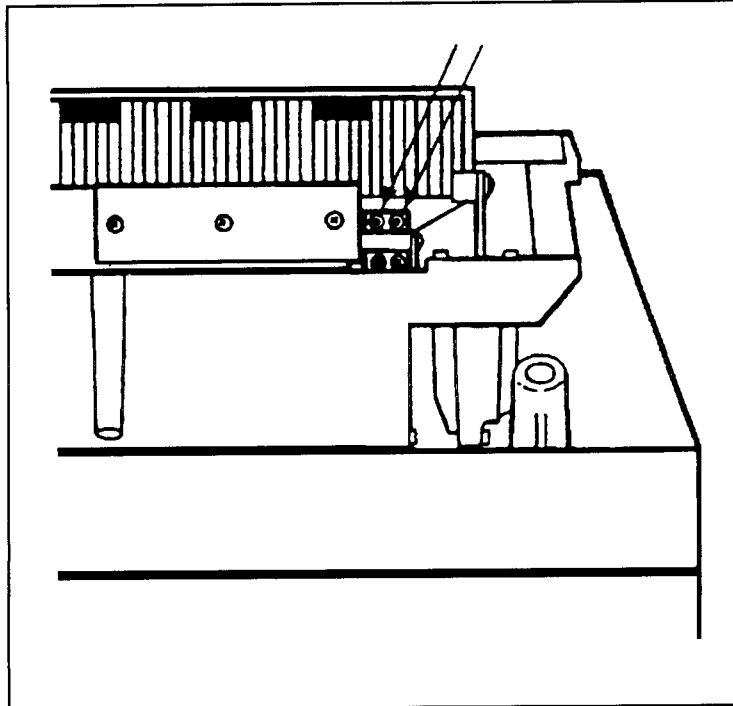

Figure 6-20. Upper Crank Arms Screw
- g. Remove the two screws (3mm socket cap screws) from the upper crank arm of the print mechanism (see Figure 6-20).